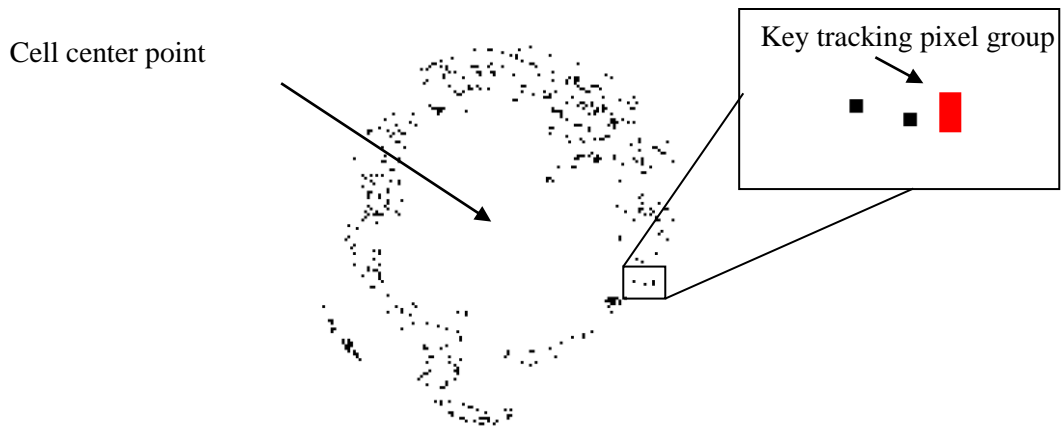

Fig 2: Zoomed in view of the thresholded oocyte image, showing selection of the key tracking pixel group.
Step 4: Select a unique tracking feature pixel group on the circumference of the circle by mouse clicking (Fig 2). The unique pixel group is selected such that an image patch (as a template) around this group (i.e., the pixel group and its neighbouring pixel groups) matches 40-50 successive image sequences.